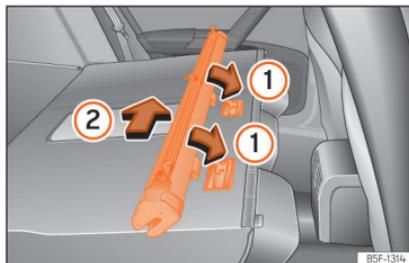

Fig. 140 Assembling the net partition in the rear seat backrests.
- Place the net casing in the rail slots in the direction of the arrows » **Fig. 140 ①**.
- Push the casing towards the left side of the vehicle in the direction of arrow » **Fig. 140 ②** and as far as it will go.
»» Fig. 140 ②.
»» Fig. 140 ①.